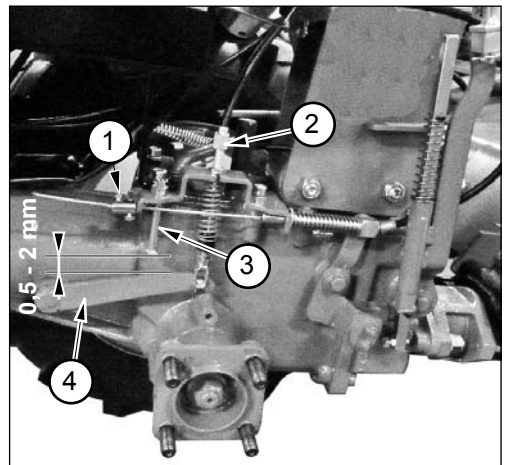

Fig. 4
**Figure 4 - Adjusting the clutch.** - 1) Lock the clutch cable. - 2) Register clutch cable. - 3) Screw the end of the race the clutch lever. - 4) External clutch lever.